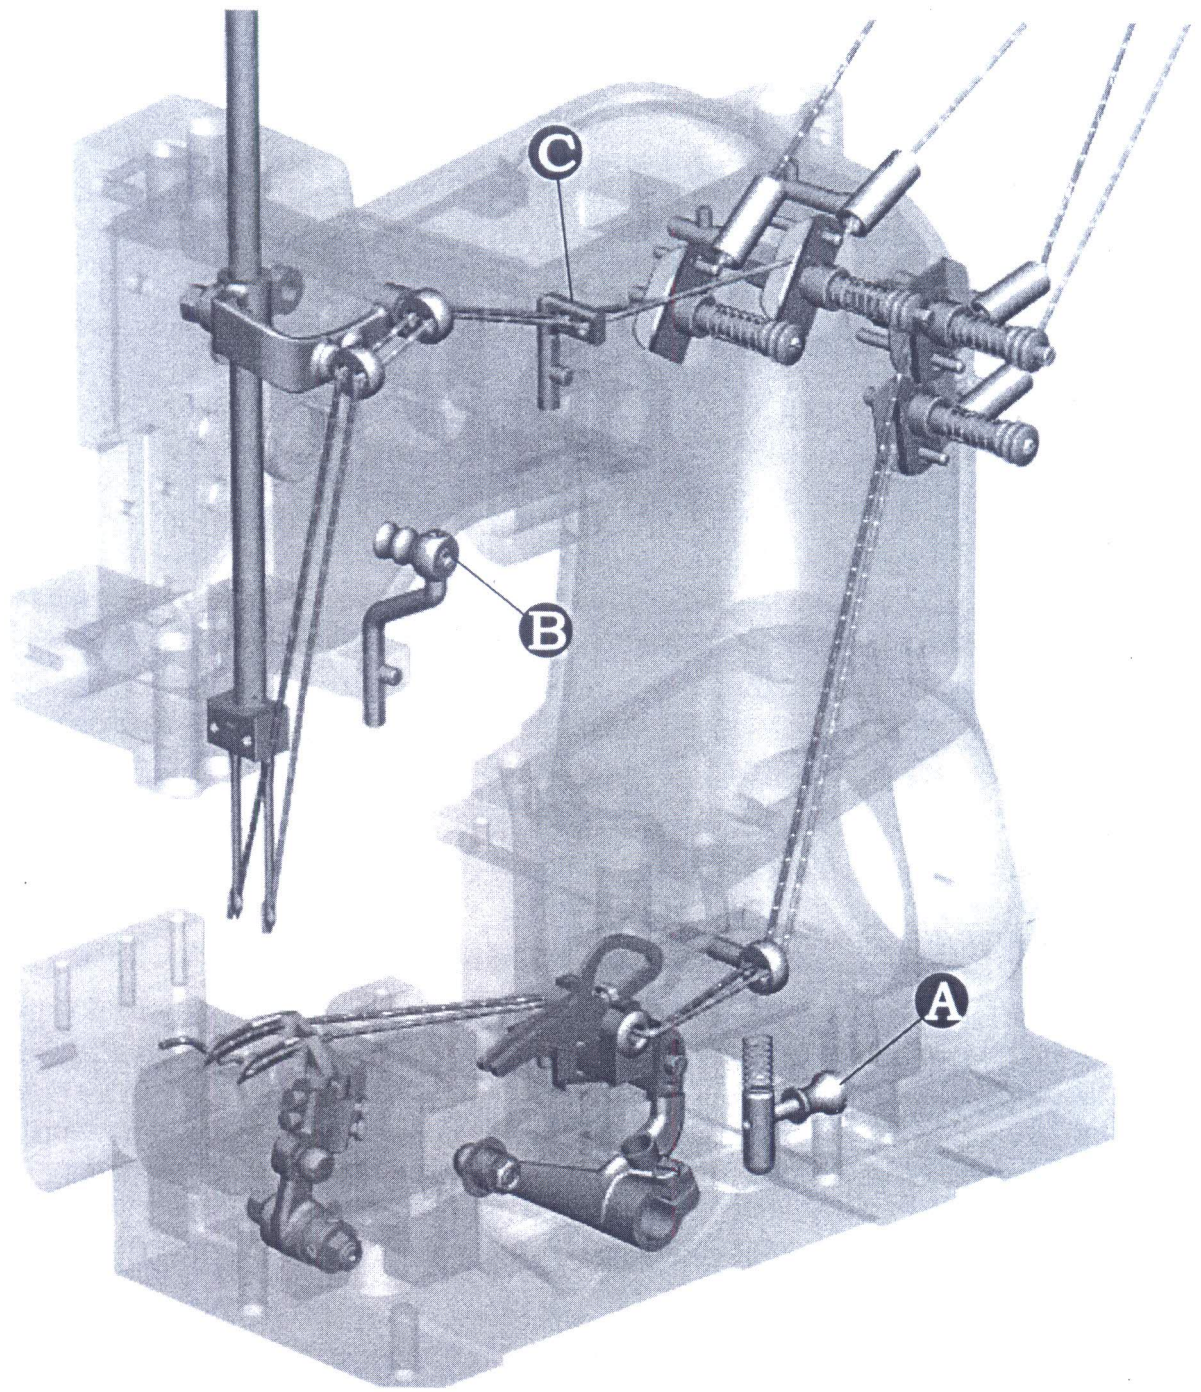
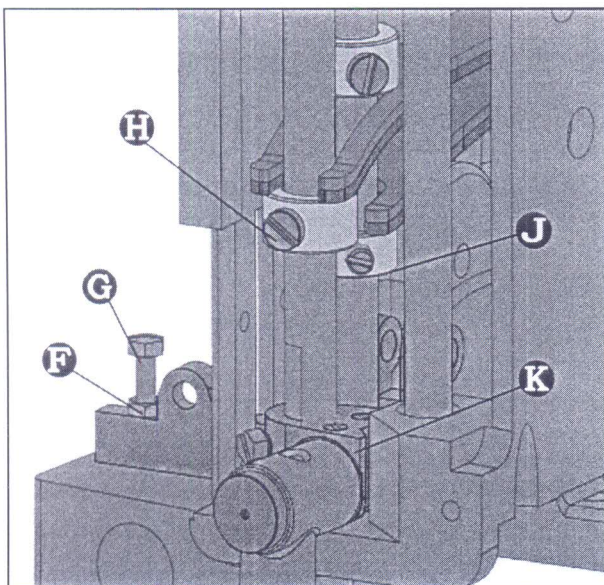
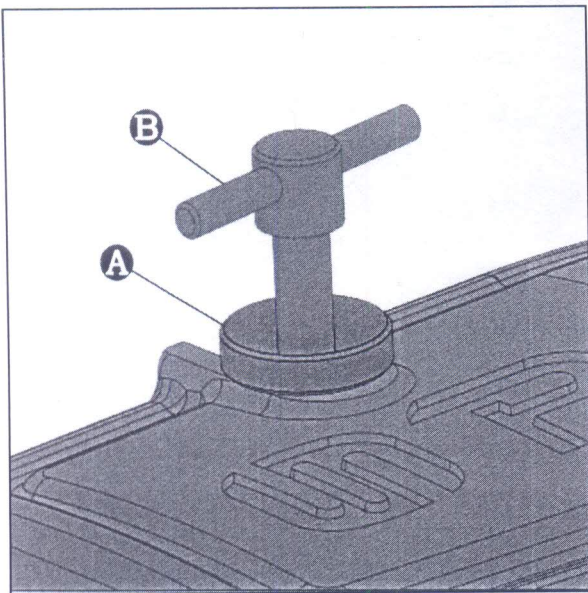

FIGURE 2
FIGURE 11
FIGURE 14
ST 6006 UDDR is threading as show in Fig.2.
For threading the needle, turn hand wheel pulley in the operating direction until the needle is in the uppermost position. For looper threading, open the hinge plate by lifting locking bolt knob (A, Fig.2 and 2A). When threading, be sure the thread goes through the front eyelet, over the take-up and through the back eyelet before threading the looper (see also Fig.11). Close the hinge plate after threading.
Turn the hand wheel pulley in the operating direction until the needle is in its uppermost position. Unthread the eye of the needle to be changed. Loosen needle clamp nut and respective screws (Fig.2) for the needles and pull out the needles. Insert the shank of the new needle as far as it will go with the long groove of the needle facing to the front (toward the operator). Tighten the needle clamp nut and the respective screws securely. Thread the needle eye.
For setting the small gap between the feed dogs, loosen nut (F, Fig.11). Turning in the screw (G) increases the gap and turning it out decreases the gap, Retighten nut (F).
Next, loosen the two screws (H, Fig.11) and higher the supporting yoke (J) when the upper feed dog needs to lift more and the presser foot less, and lower it when the upper feed dog needs to lift less and the presser foot more. Retighten screws (H). Loosen nut (A, Fig.14) and tighten t-screw (B) until it exerts the wanted presser on the upper leaf springs. Then place the top cover in place and tighten while countering with the nut.
Now tighten the T-screw (B, Fig.14) until the necessary presser foot pressure is exerted for proper feeding. (Determine by sewing tests.) Secure this setting with the knurled nut (A) which simultaneously fastens the upper arm cover. Remount the face cover and the finger guard.
Basically the needle thread take-up roller (B, Fig.2) is set in the middle of its shaft, located left on the upper bed casting under the face cover. In case more needle thread should be pulled off for a bigger needle thread loop (depending on thread and fabric), raise the needle thread take-up roller appropriately. Fasten needle thread guide (C Fig.2) located on the top of the upper bed casting, approximately so that it is placed in the middle of its shank.